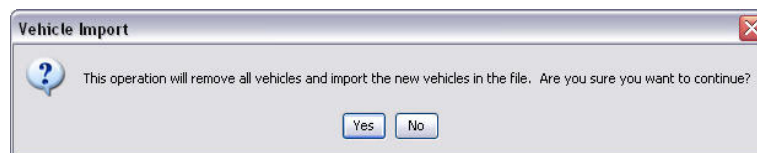

FIG. 157
2. The warning message shown in FIG. 157 pops up, notifying you that any vehicles you have already added to the group will be replaced by the vehicles in the imported file.